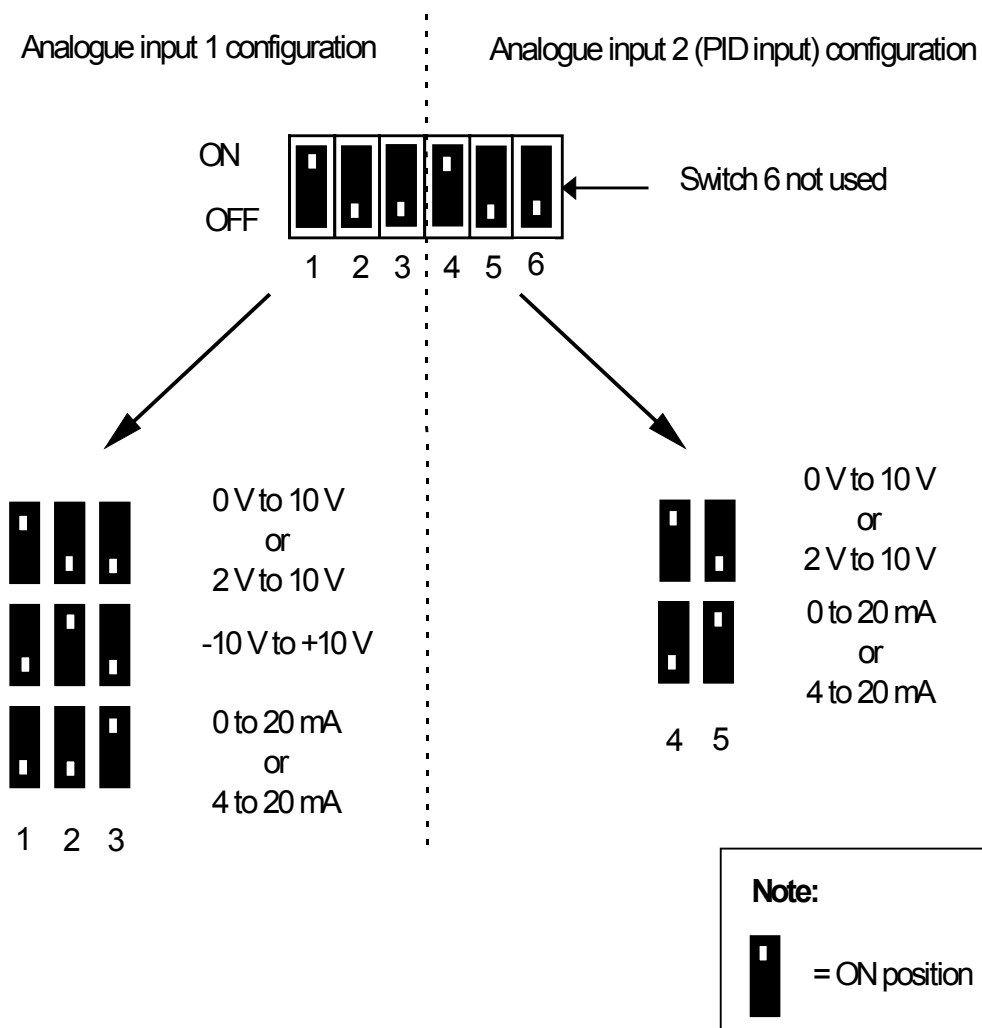

Figure 4.1.2. DIP Selector Switches
DIP switches select between voltage (V) and current (I) analogue inputs. They also select between either a voltage or current PID feedback signal (see Figure 4.1.2: DIP Selector Switches). These switches can only be accessed when:
The five DIP selector switches have to be set in agreement with P023 or P323 according to the operation of the inverter. Figure 4.1.2 below, shows the settings of the switches for the different modes of operation.